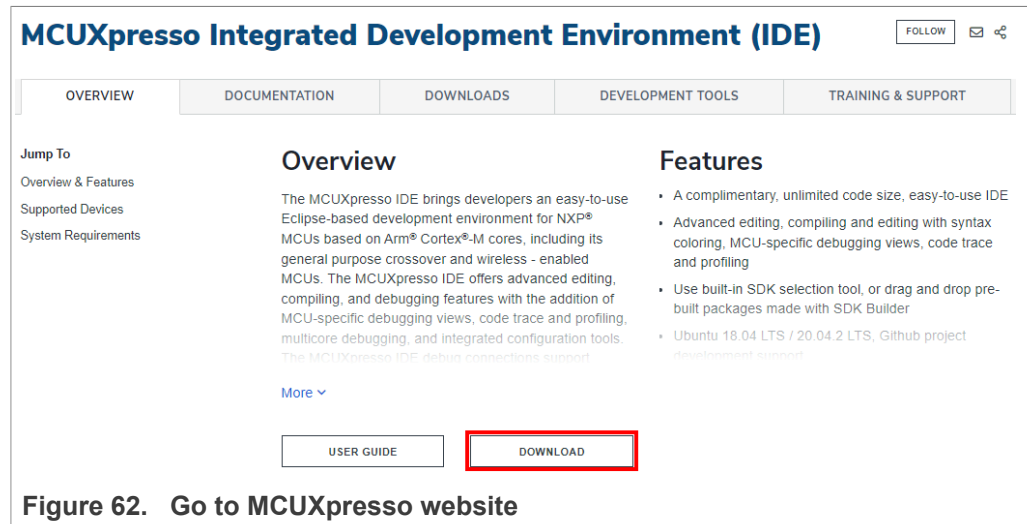

Figure 62. Go to MCUXpresso website
1. Go to MCUXpresso and click the download button as indicated in Figure 62: